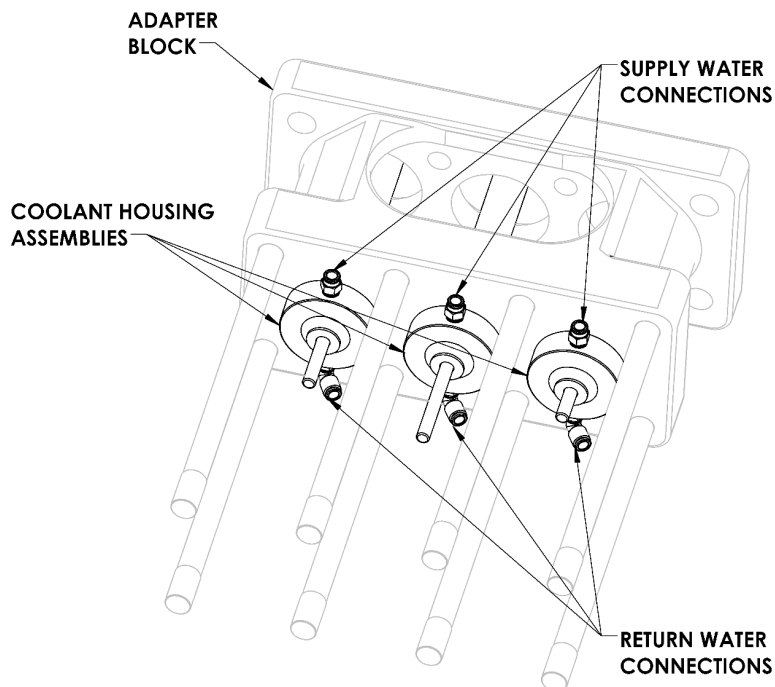

Figure 36 Removing the Coolant Housing Assemblies
1. **Remove** the coolant housing assemblies. (See **Figure 36** below.) To do this, **slide** them forward until they clear the end of the plungers. The coolant housing fits snugly to the bore in the adapter block and may be difficult to remove. **Use** both the top and bottom fittings of the coolant housing to **rotate** the assembly while removing it. During removal, **keep it aligned** with the bore.
1. **Remove** the coolant housings. (See **Figure 36** on page 40.)